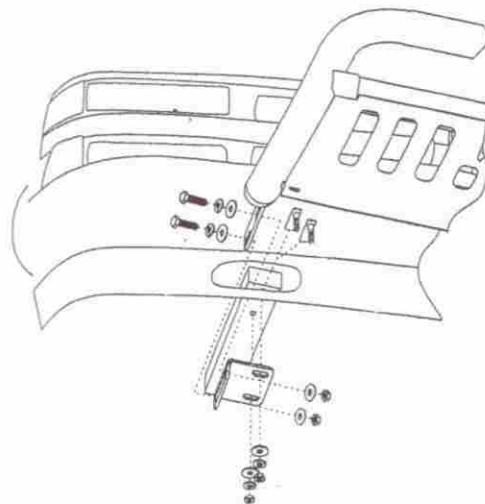

Figure 2
- Insert Bolt Plates into front of frame so threaded bolt drops through mounting hole. Attach Mounting Brackets using the included 12mm Hex Nuts, 12mm Flat Washers, and 12mm Lock Washers (Figure 2). Do not tighten at this time.
- Remove lower air dam and attach Bull Bar on the outer side of Mounting Brackets using the included 12-1.75mm Hex Bolts, 12mm Flat Washers, 12mm Lock Washers, and 12mm Hex Nuts (Figure 2). Do not tighten at this time.